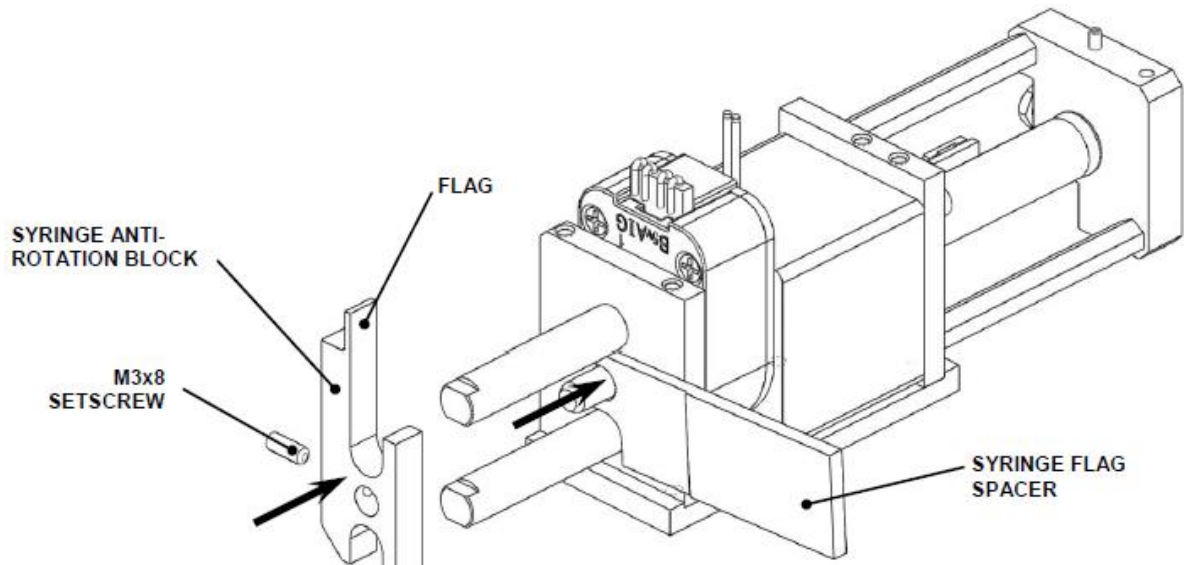

Figure U-16; The Syringe Anti-Rotation Block
1. Remove the Syringe Anti-Rotation Block (Figure U-16).